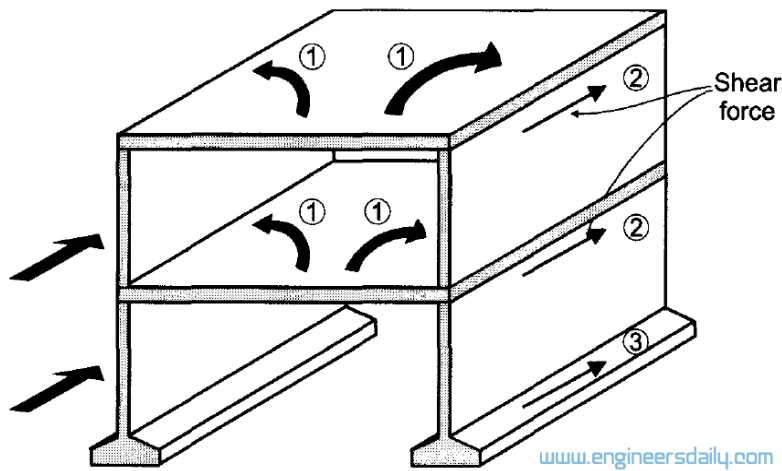

Figure :3 Lateral Load Path
Figure 3 shows a reinforced concrete structure and the elements constituting the lateral load path: roof and floor systems (1) transfer the load to the walls (2), which in turn transfer the load to the foundations (3). Roof and floor systems (also called diaphragms) take horizontal forces from the storeys at or above their level and transfer them to walls or frames in the storey immediately below. Shear walls and frames are the primary lateral-load resisting elements; however, these members also carry gravity loads. Shear walls receive lateral forces from diaphragms and transmit them to the foundations. Foundations form the final link in the load path by collecting the lateral forces from all storeys and transmitting them to the ground.